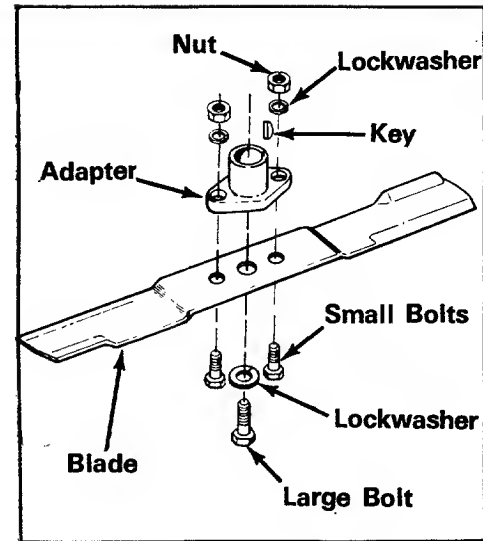

Figure 19
- 4 Remove the two smaller bolts, lockwashers and nuts holding the blade to the adapter (See figure 19.)